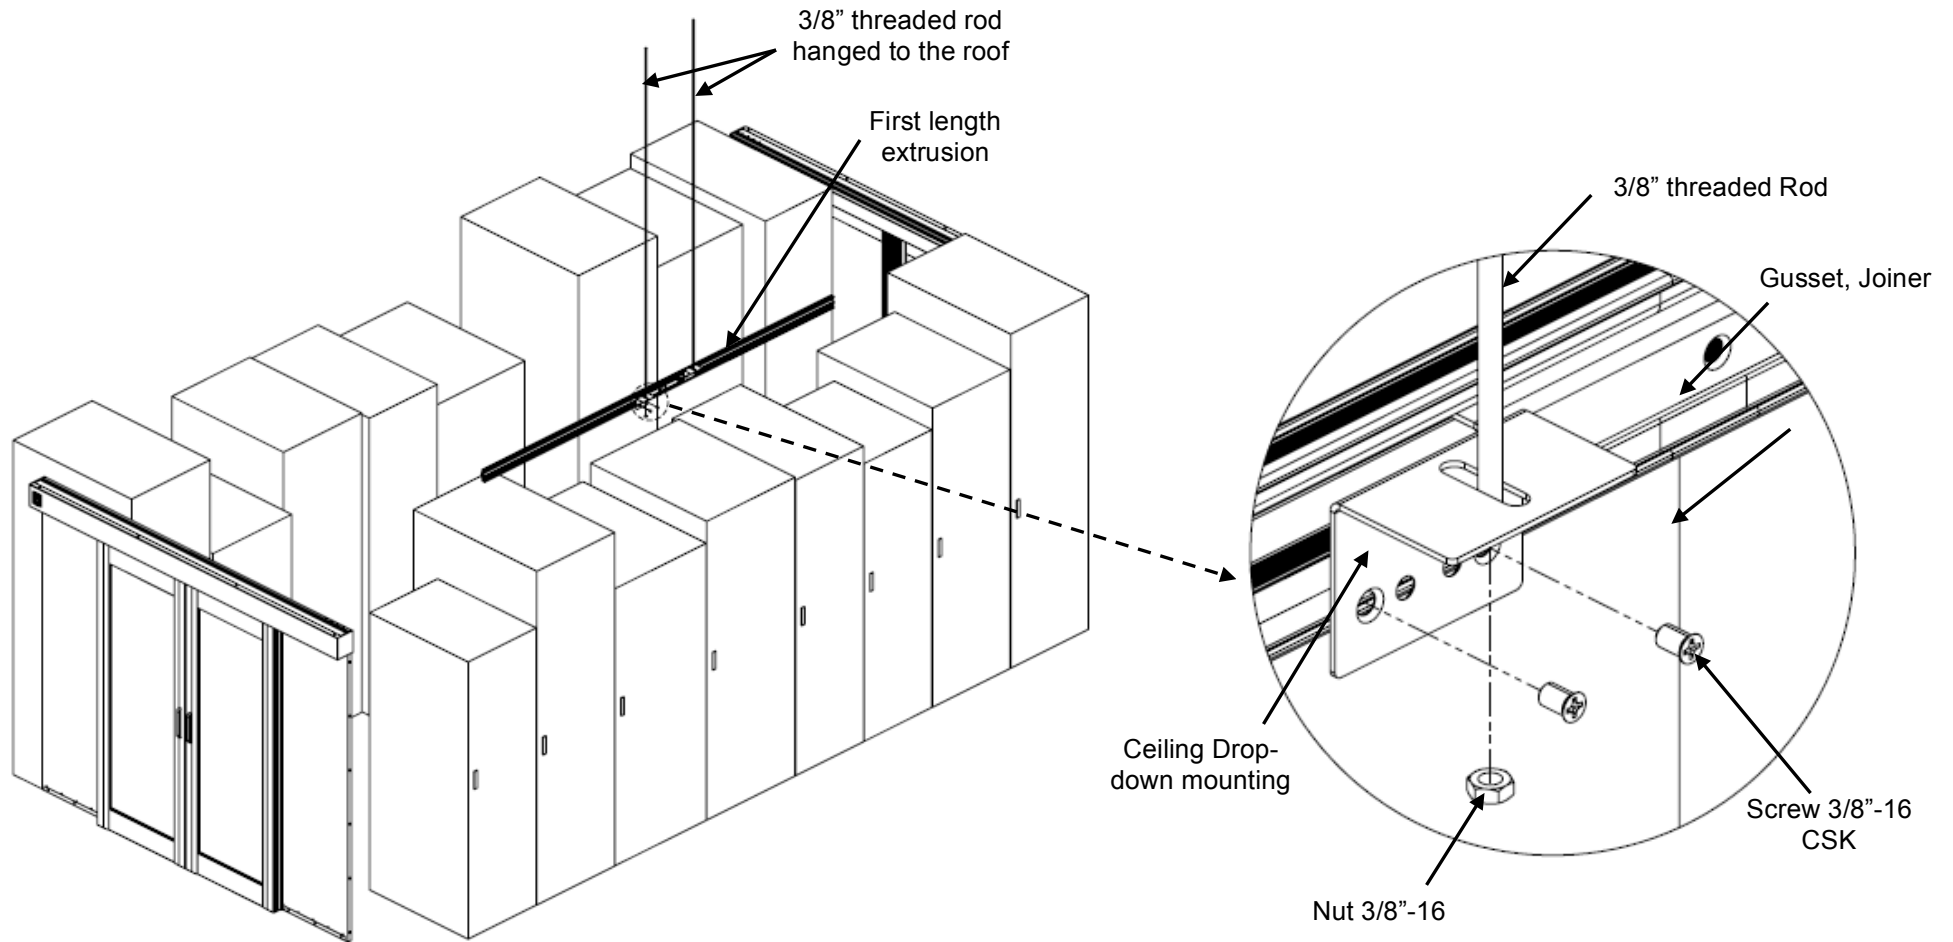

Fig. 7
8. Hanging the First length Joiner by using 3/8" threaded rod through Ceiling drop down mounting slot with 3/8" Nut (Fig.7),